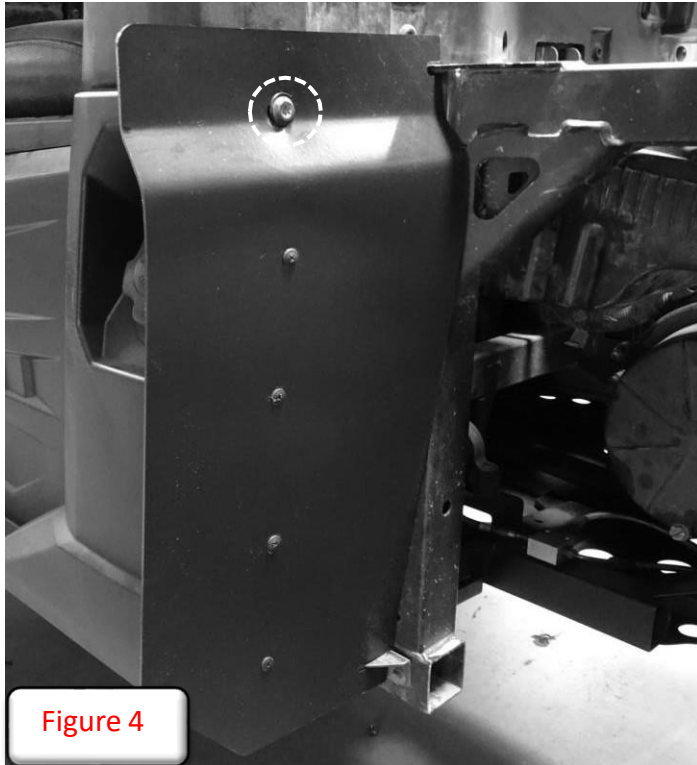

Figure 4
1. Remove the factory bolt circled in **Figure 4**.